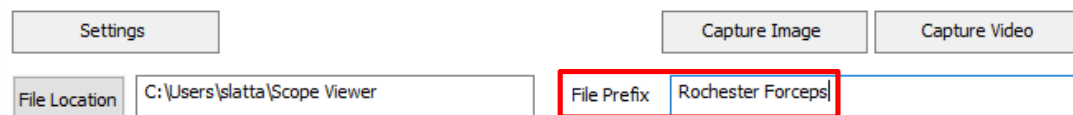

Figure 6
2. Enter the characters you would like included in the file name. (Fig 6).